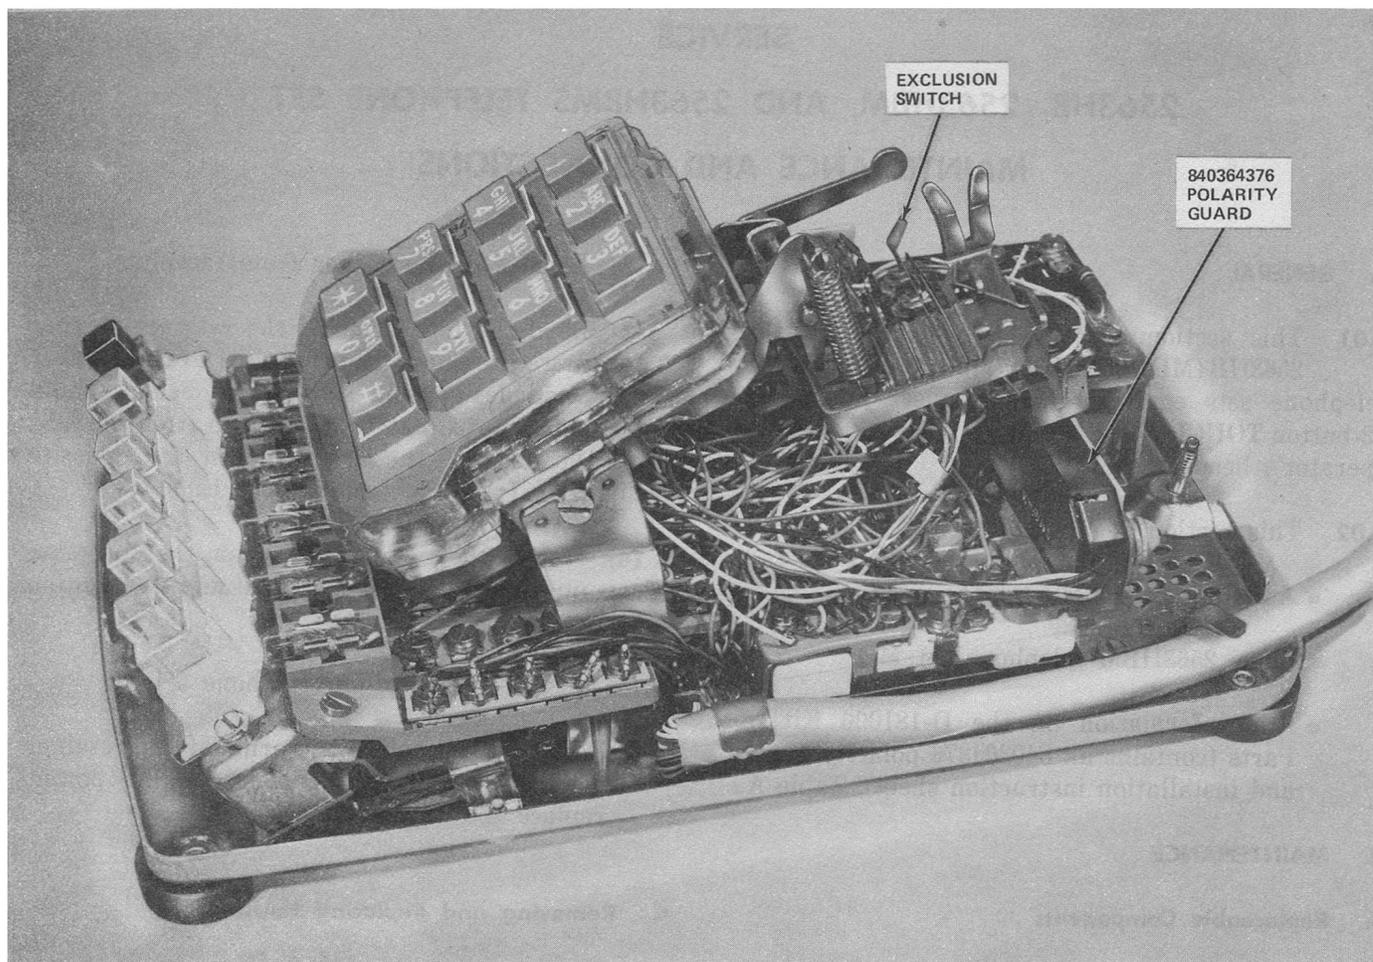

Fig. 1—2563HBMS Telephone Set With Polarity Guard Installed
3.02 A D-181006 Kit of Parts containing an 840364376 polarity guard and instruction sheet should be used with these sets when specified by local instruction to eliminate the affects of battery and ground reversals encountered in end-to-end signaling (Fig. 1 and Table A). Station busy lamp indication, showing only that the handset is off-hook or that the headset key is in the ON position, can be provided for 1A1, 1A2, 6A, or 6B KTS by use of a 533K diode or equivalent which must be ordered separately and connected as shown in Fig. 2. This connection **will not** indicate that a line pickup button is depressed. Station busy for 1A KTS is a wiring option shown in Fig. 3.